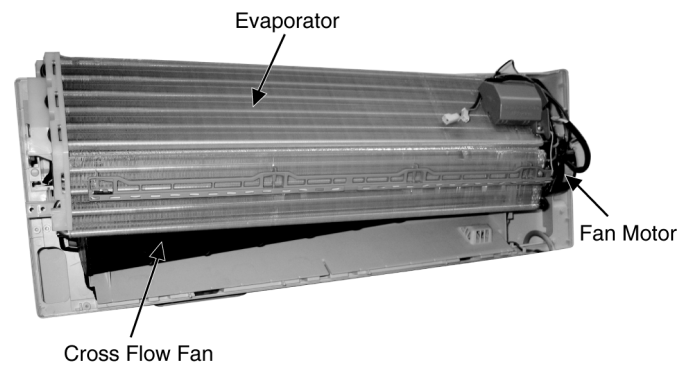

Fig. 12
- Lift up the Evaporator and remove the Cross Flow Fan from the unit by pulling it to the left and downward. Fan Motor can be removed after the removal of the Cross Flow Fan (Fig. 12)